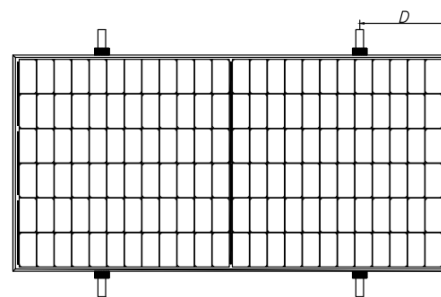
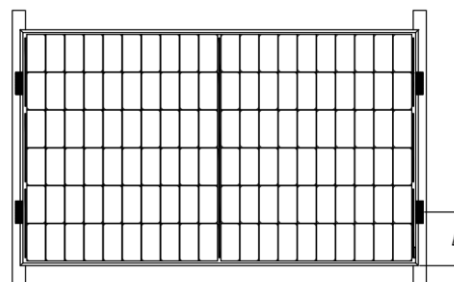
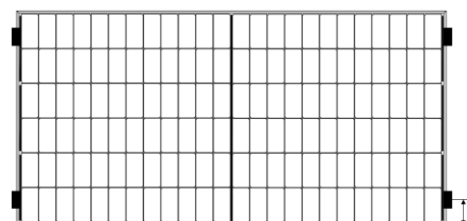

Fig. 9 Rails vertical to the long-side frame
Fig. 10 Rails overlapping the short-side frame
Fig. 11 Four clamp mounting on short side of frame
Photovoltaic modules can be installed across the support frame (Fig. 9) or parallel to the frame of the photovoltaic module (Fig. 10). PV modules can also be installed with four fulcrums (Fig. 11). When using clamps to install, each module must be secured with a minimum of 4 clamps.
- ⑧ For the mounting shown in Figure 10, the overlap between the C surface of the module and the rail should be $\geq 25\text{mm}$. Astronergy's limited warranty will be void if improper clamps or improper installation is used.